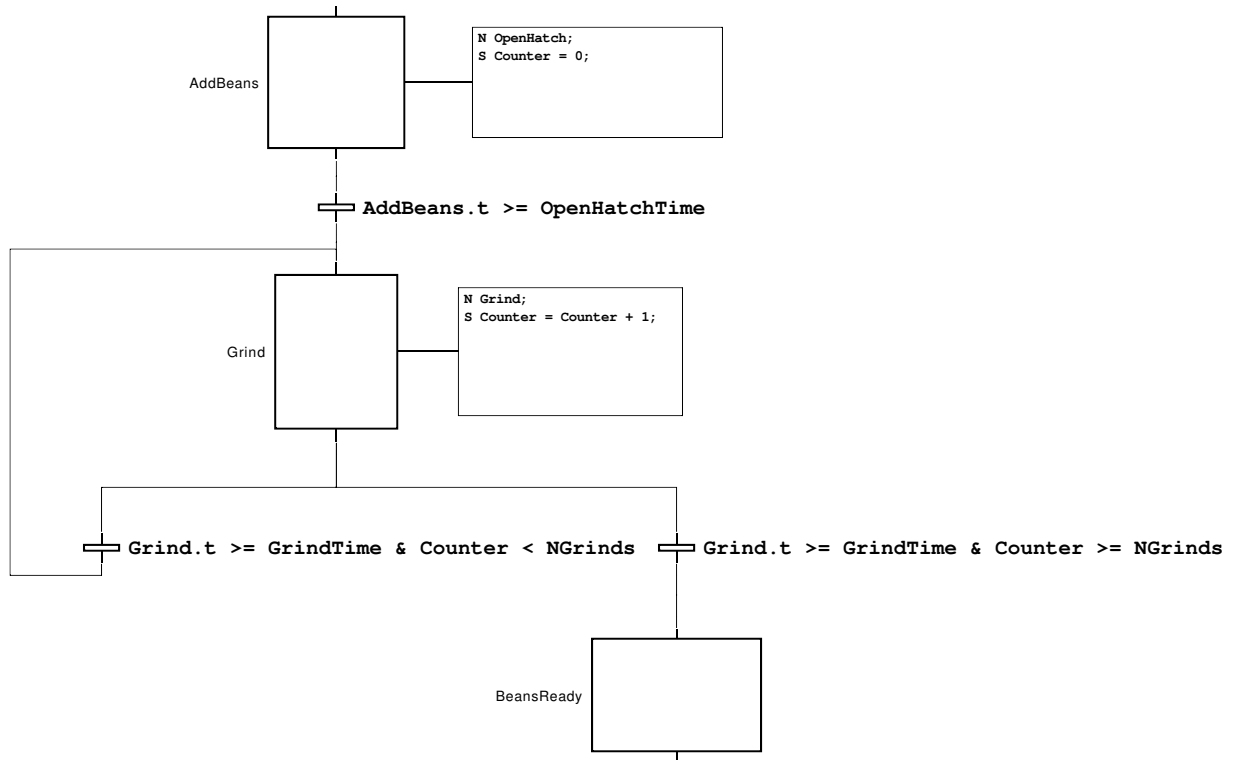

Figure 3 A possible solution for the coffee-grinding task.
- a.** A possible solution is shown in Figure 3.